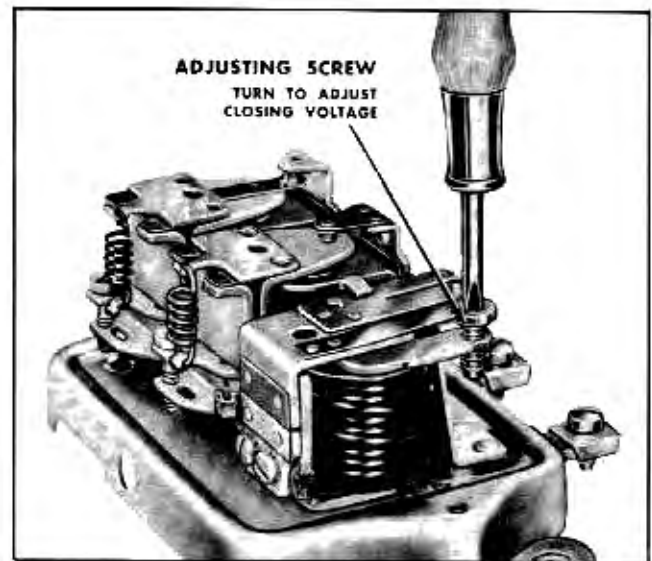

Fig. 12-13 Adjusting Closing Voltage
3. Adjust the closing voltage by turning the adjusting screw (Fig. 12-13). Turn the screw clockwise to increase the setting and counterclockwise to decrease the setting.